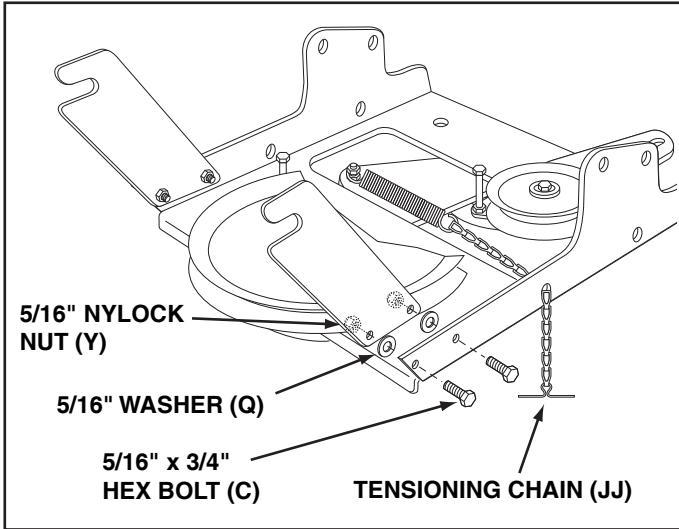

FIGURE 41
STEP 41: (SEE FIGURE 41)
- Attach the two suspension arms to the rear of the clutch/idler assembly using two 5/16" x 3/4" hex bolts (C), 5/16" washer (Q) and 5/16" nylock nuts (Y) for each arm.